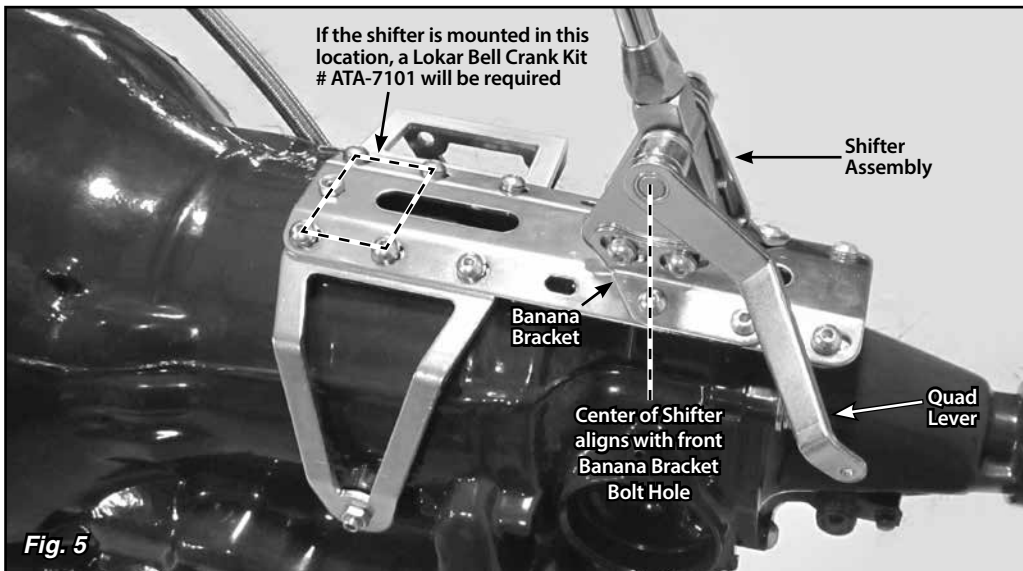

Fig. 5
Step 8: (Continued) Transfer that measurement to the transmission (or to the engine/transmission assembly if the engine is not installed in the vehicle). Mark that location on the main plate. The holes in the main plate that are closest to your mark are where the **FRONT** banana bracket bolts will need to be installed. **Fig. 5**
NOTE: If mounting the Shifter all the way forward, using the four bolt holes at the very front of the main plate, a Bell Crank Kit (Lokar Part No. ATA-7101, sold separately) will be required. Fig. 5